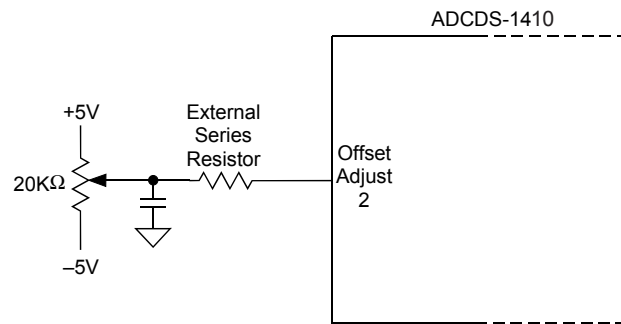
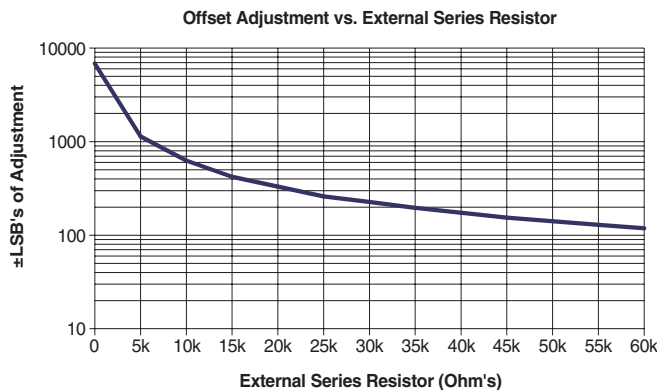

Figure 3. Offset Adjustment Circuit
Figure 6. Offset Adjustment vs. External Series Resistor
3. If using the suggested offset and gain adjust circuits (Figure 3 & 5), place them as close to the ADCDS-1410's package as possible.
Manual offset adjustment for the ADCDS-1410 can be accomplished using the adjustment circuit shown in Figure 3. A software controlled D/A converter can be substituted for the 20KΩ potentiometer. The offset adjustment feature allows the user to adjust the Offset/Dark Current level of the ADCDS-1410 until the output bits are 00 0000 0000 0000 and the LSB flickers between 0 and 1. Offset adjust should be performed before gain adjust to avoid interaction. The ADCDS-1410's offset adjustment is dependent on the value of the external series resistor used in the offset adjust circuit (Figure 3). The Offset Adjustment graph (Figure 6) illustrates the typical relationship between the external series resistor value and its offset adjustment capability utilizing ±5V supplies.